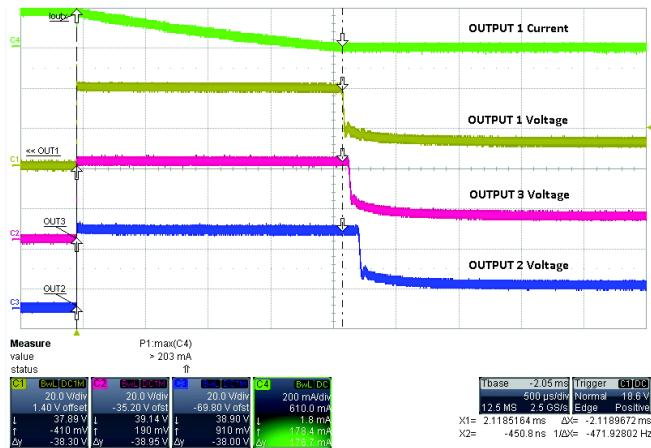

Figure 3. Repetitive Clamping Energy Test
***2M pulses (triangular), VS = 15 V, 63 Ω, 390 mH, TA = 25°C. (See Figure 3)